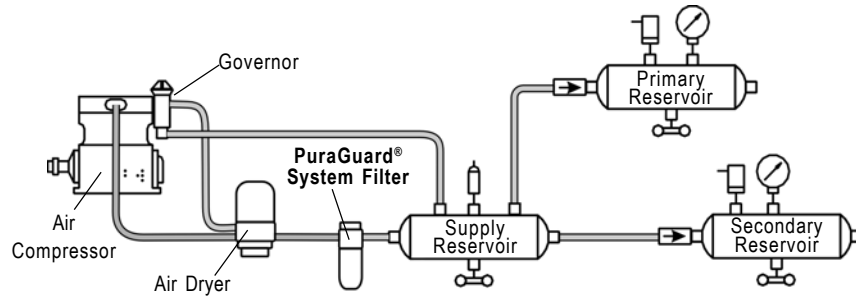

FIGURE 3
The *PuraGuard*® system filter follows the air dryer in the system and removes approximately 99% of oil aerosols. On vehicles not using an air dryer, the *PuraGuard*® system filter follows the supply (“wet tank”) reservoir (see Figures 3 & 4).
- (a) **For vehicles with air dryers**, mount the *PuraGuard*® system filter upstream of the supply reservoir (see Figure 3).